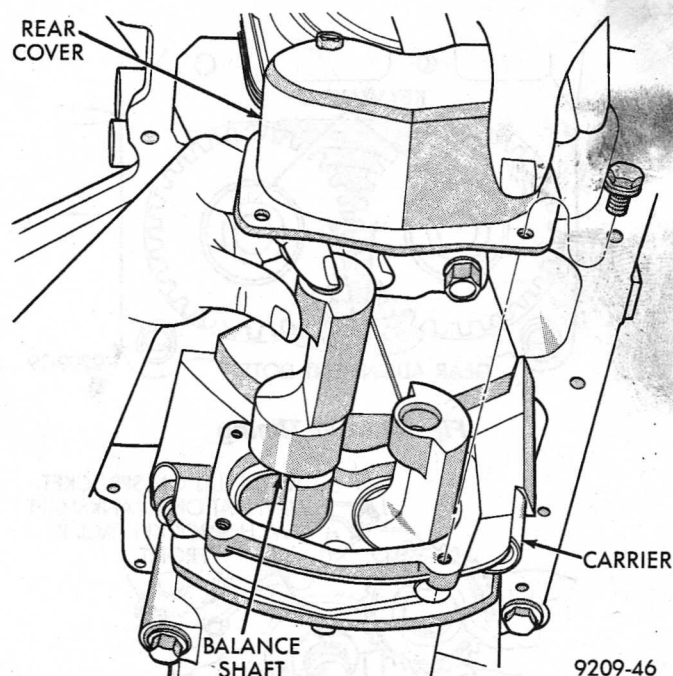

Fig. 43 Balance Shaft(s)-Removal/Installation
The following components will remain intact during carrier removal. Gear cover, gears, balance shafts and the rear cover (Fig. 43).
(1) With balance shafts installed in carrier (Fig. 43) position carrier on crankcase and install four attaching bolts and tighten to 54 N·m (40 ft. lbs.).